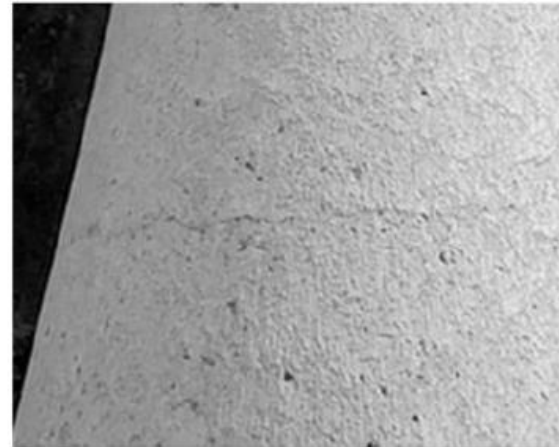

Figure 4—Acceptable Surface/Curing Crack (Photo Courtesy of ACPA)
- 4.3.2. Any continuous crack having a surface width less than 0.01 in. wide, provided it does not pass through the wall as shown in Figure 4, shall be acceptable.